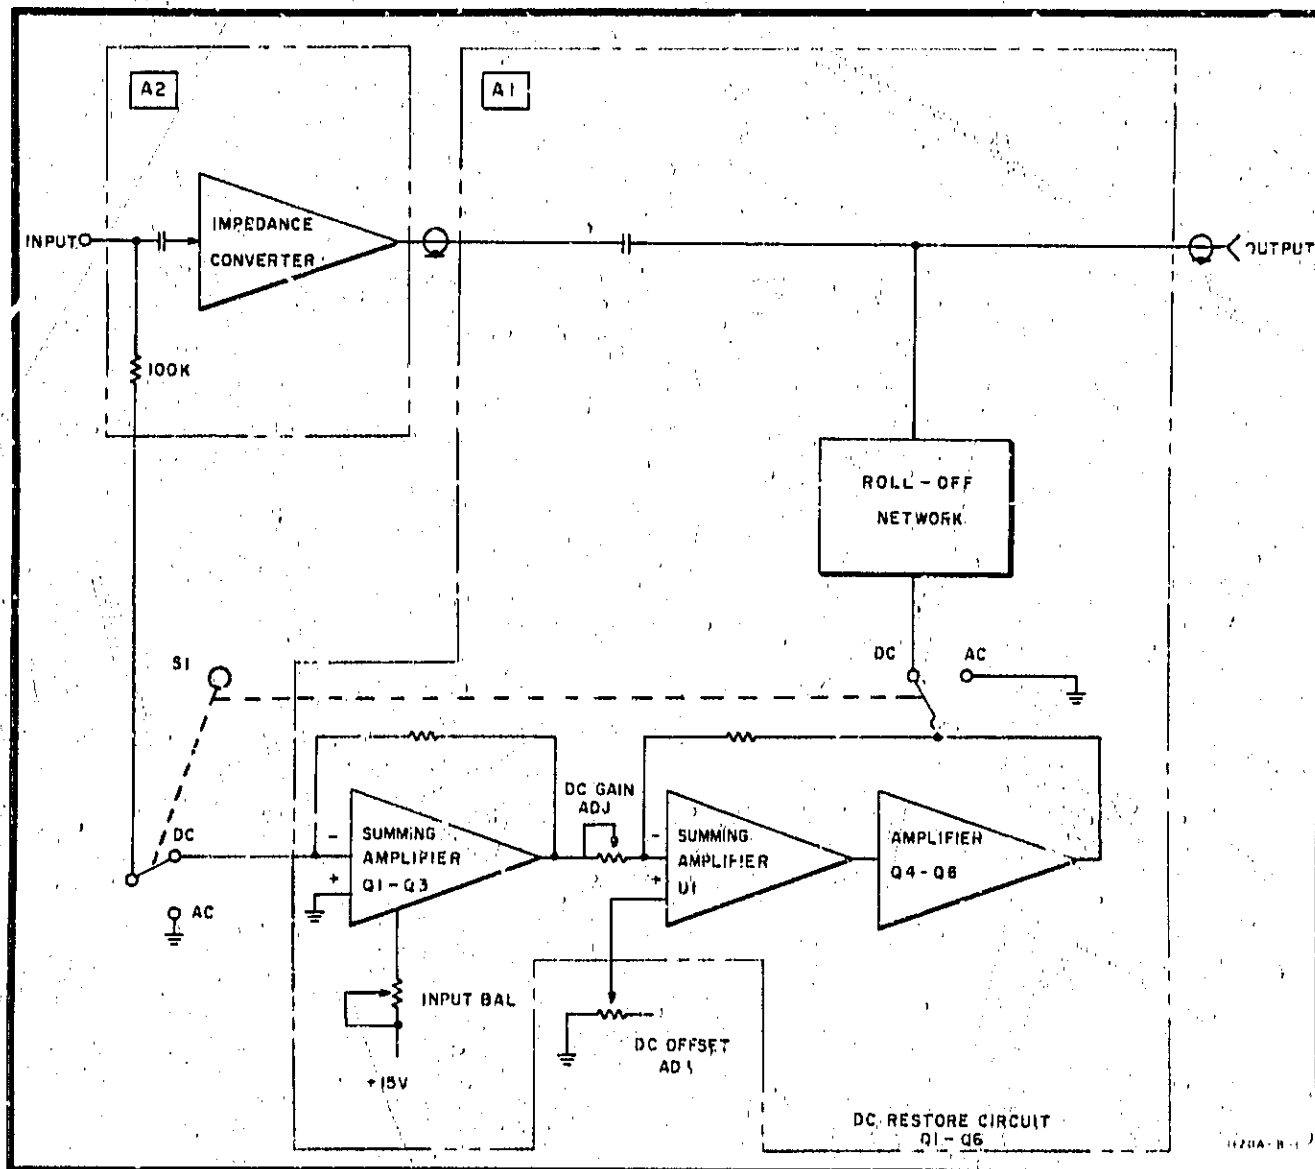

Figure 3. Model 1120A Functional Block Diagram
12. Figure 3 is a functional block diagram of the Model 1120A. The input capacitor, impedance converter, and 100-kilohm resistor are located in the probe tip microcircuit. The impedance converter is a current amplifier with unity voltage gain. Output impedance of the converter matches a 56-ohm transmission line which results in a current gain of approximately 4000 at low frequencies. When the AC mode of operation is used, a transmission line connects the output of the impedance converter to the controller assembly (A1). The controller assembly capacitively couples the signal to the output cable. Unity gain is maintained when the signal is terminated in a 50-ohm load with a low-frequency roll-off at approximately 1.5 kHz. If low frequency response is not needed, the ac mode of operation can be used for signals of less than ± 100 volts (dc plus peak ac) with a ± 0.5 volt dynamic range. When the response below 1.5 kHz becomes necessary, the DC mode of operation should be used. The ac signal path remains the same. In addition, the input signal from the probe tip is applied to a summation amplifier in the DC-restore circuit (on the controller assembly). The summation amplifier produces a unity-gain output. A second summation amplifier compares the ac-coupled output signal to the output of the first summation amplifier. The output of the second summation amplifier (with its associated circuitry) will correct the low-frequency roll-off. At higher frequencies, the roll-off network decouples the DC-restore circuit from the output.